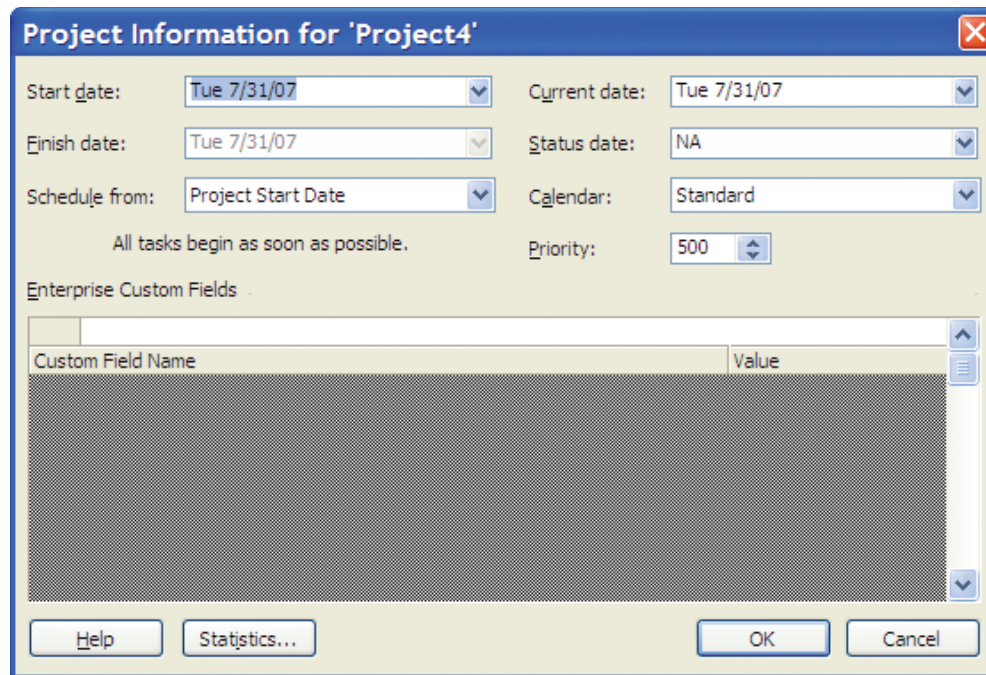

FIGURE T12.9
1. Click **Project**, then select **Project Information**. The Project Information dialog box appears (see Figure T12.9).